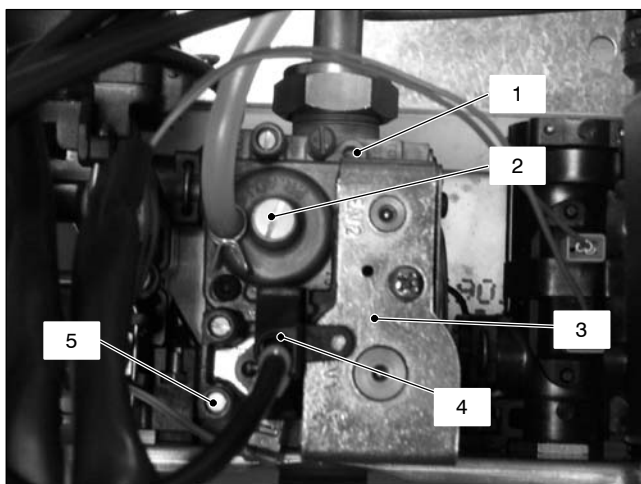

Fig. 11.2
11.2 Description of the parts (Fig. 11.2)
- 3 Loosen the internal screw on the Inlet Pressure Test Point 5 (Fig. 11.2) of the Gas valve and connect a pressure gauge using a suitable hose.
- 10 Disconnect the pressure gauge and close the Inlet Pressure Test Point 5 (Fig. 11.2).
To adjust the CO₂ % value remove the brass plug by unscrewing it and rotate the Allen key screw $\varnothing$ 4 mm (2 – Fig. 11.2) (by rotating it clockwise the CO₂ % increases).
To adjust the CO₂ % value rotate screw (1 – Fig. 11.2) (by rotating it clockwise the CO₂ % decreases).
- 27 After adjustment fit the protective brass plug (2, Fig. 11.2).
- 2 Disconnect the electrical connector 4 (Fig. 11.2).